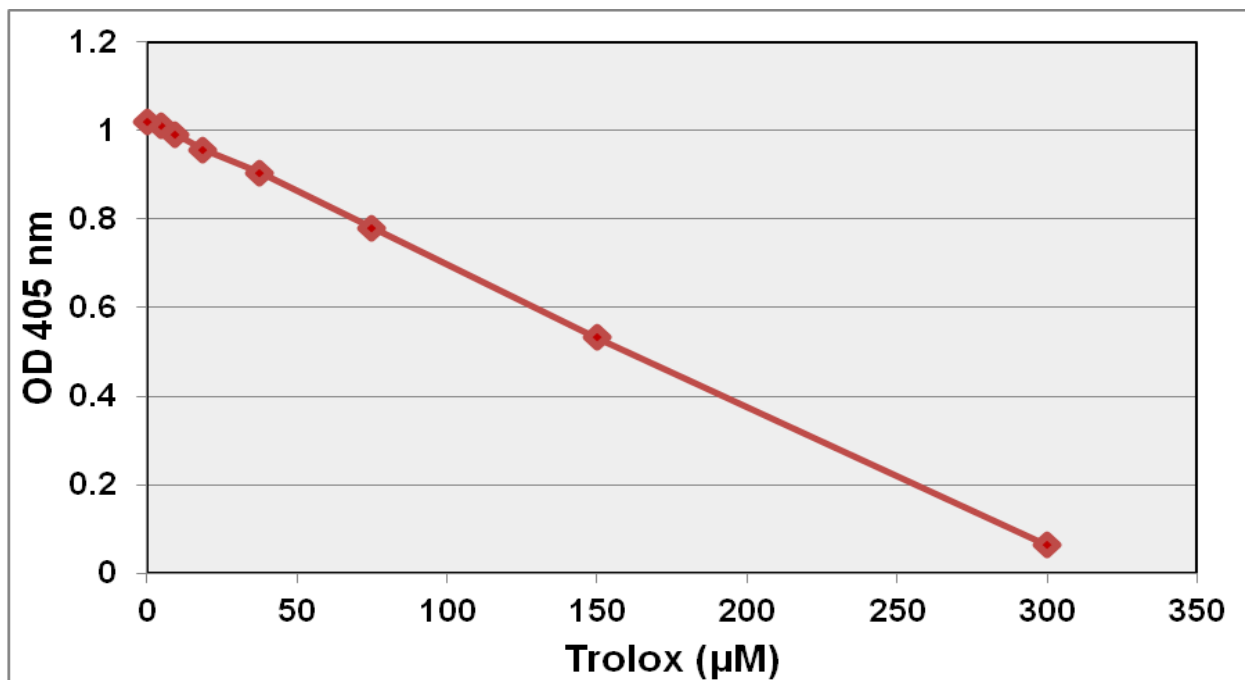

Figure 2: TEAC Assay Standard Curve (Hydrophilic).
2. Plot the average absorbance for the standards against the final concentration of the trolox standards from Table 2 (hydrophilic assays), or Table 3 (lipophilic assays) to determine the best curve. See Figures 2 and 3 for example standard curves.